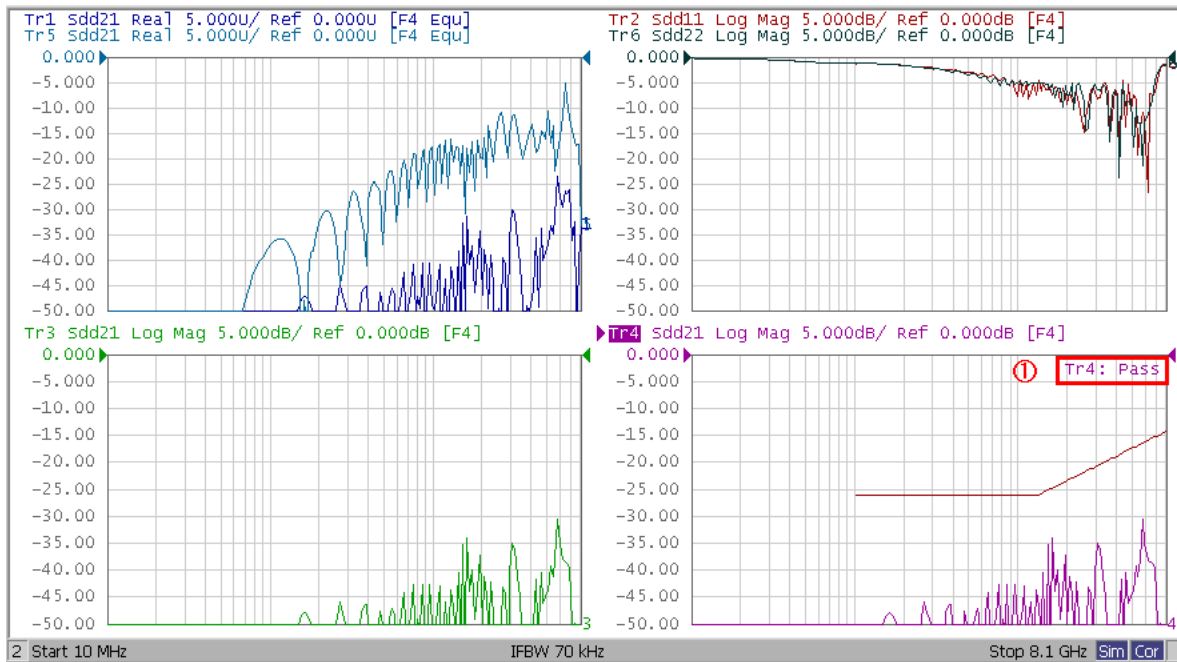

Figure 5-5: Near End Noise Measurement Example.
Read Pass/Fail sign on Trace4 (item1 in Figure 5-5).